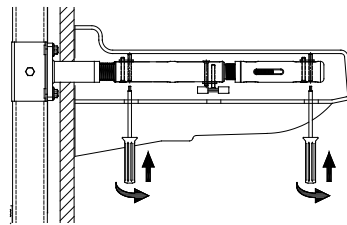

Fig. 11
11. To adjust the height and level of the lavatory, adjust the (4) 1/8" hex head leveling screws up through the underside of the lavatory access holes, raising the fixture until level side to side and front to back. See Fig. 11